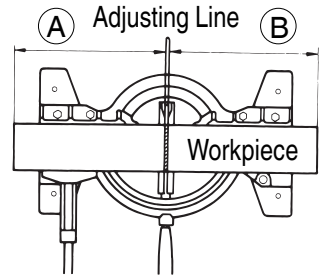

Fig. 8
- (1) Since saw blade width represents cutting width, slide the workpiece to the right when length (B) is desired. (Fig. 8)
- (2) When the saw blade has reached maximum speed, push the handle down carefully so the blade approaches the workpiece.
- (3) When the saw blade contacts the workpiece, push the handle down gradually to produce cutting.
- (4) When the cutting (or desired cutting-in) has been completed, raise the handle up to the retract position.
- (5) Turn the tool OFF after each cutting operation is completed, and allow the saw blade to come to a complete stop before preparing for the next operation.